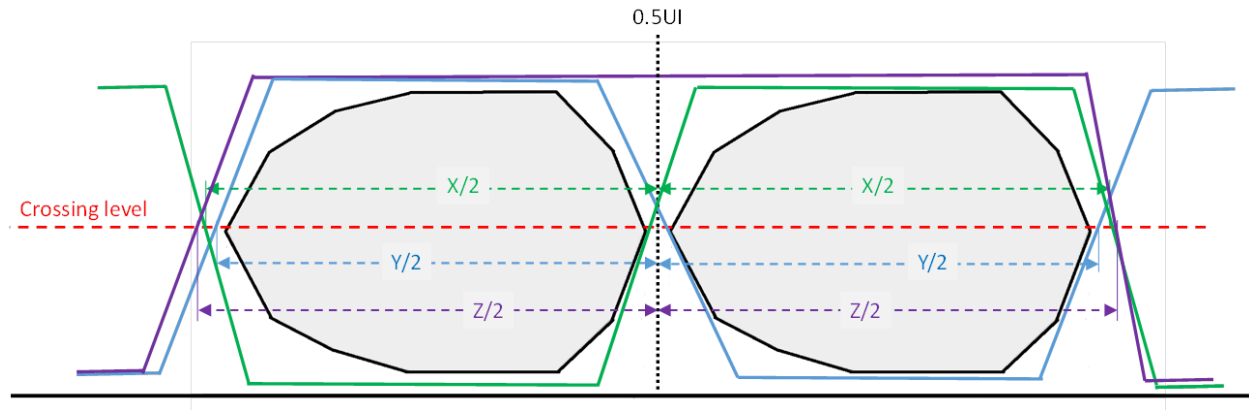

Figure 2: Example of producing eye diagram
8. The Tester uses the mid-level as the initial crossing level of the Eye Diagram, refer to Figure 2.